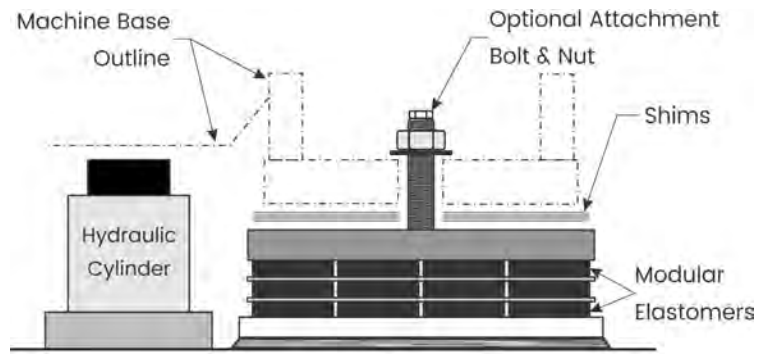

Figure 7
A Shim Pack is provided for approximately $\frac{1}{4}$ " (6mm) of leveling adjustment. The shims are placed between the machine foot and the isolator. See Figures 7 and 8. The steel shims are provided with double stick tape on one side. Remove the backing from the tape and place the shim into position. For isolators without attachment bolts avoid steel-on-steel contact.
- **MXBN, MXBL, and MXRM** isolation elements require external lifting devices, such as an overhead crane or hydraulic cylinders placed outside of the isolation elements, to insert shims between the top of the isolation element and the machine foot. See Figure 7.